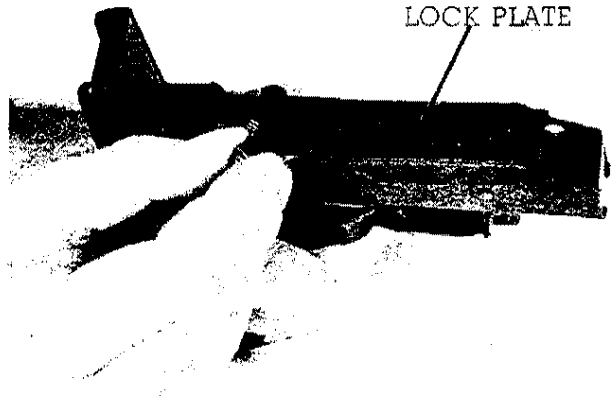

FIGURE 26. PUSHING THE LOCK PLATE FORWARD
(1) Hold the trigger housing group in a vertical position. Insert the point of a cartridge into the hole that the lock plate tang is engaged in (figure 25), and push the lock plate forward. Put the point of the cartridge against the rear of the lock plate and push it as far forward as possible (figure 26). The lock plate must remain forward during disassembly of the trigger housing group so that the trigger pins can be removed.
(1) Place the lock plate in the left side of the trigger housing group (figure 26), insuring that the lock plate is positioned on the two lock plate guide pins. The lock plate must remain forward during assembly of the trigger housing group.
(2) Place the safety into its proper position inside the trigger guard and slide it forward.